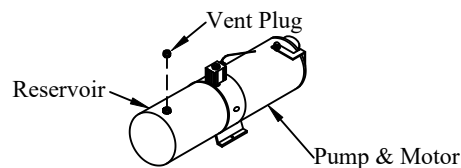

Figure 12: Vent plug.
7. **Unscrew** the solid plastic plug from the pump reservoir and **Install** the vent plug provided (Figure 12).